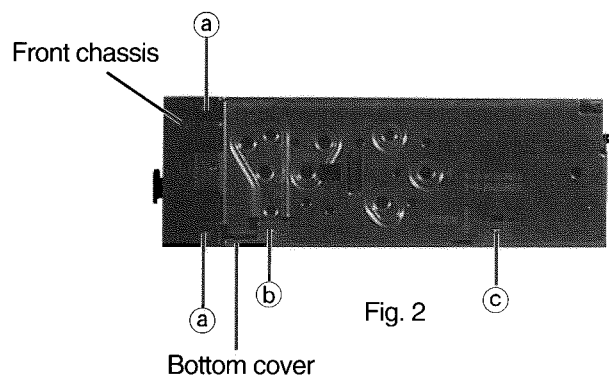

Fig. 2
■ Removing the Front Chassis (See Fig. 2,3)